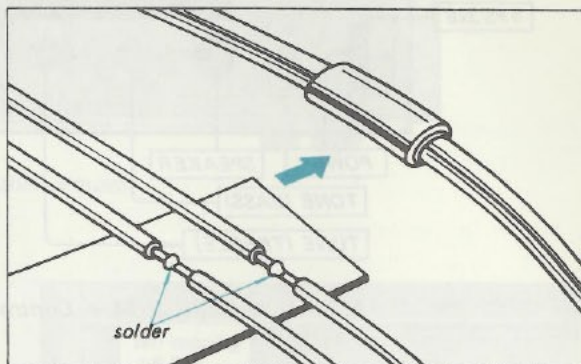

Fig. 2-13. Stereo lamp replacement
3. Cut the lamp leads and solder the lead wires to the new lamp as shown in Fig. 2-13.